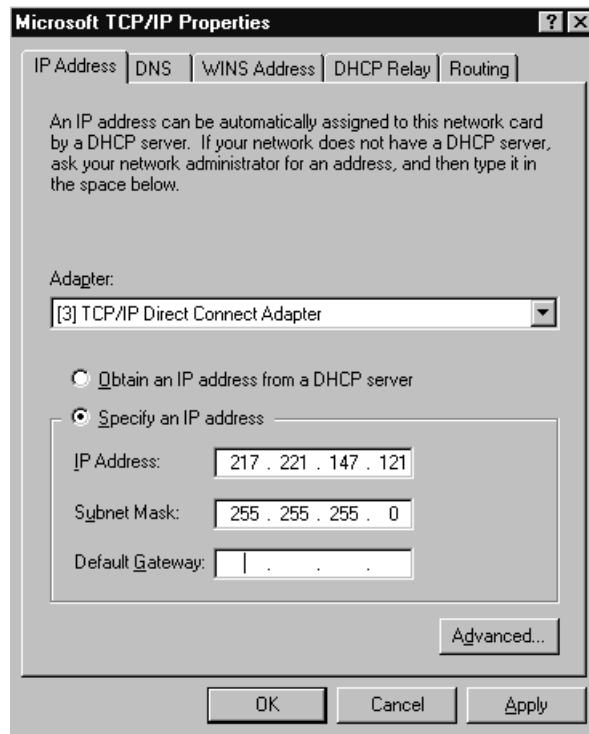

Figure 5-21. Assigning an IP Address to the ESCON Adapter
12. Enter an IP Address and Subnet Mask; defining the address that the mainframe will use to communicate with the server (Figure 5-21). Note that the mainframe IP address and this address must be in the same subnet. Also remember that if Microsoft IP forwarding is to be used in the server, this IP address must be in a different subnet than the LAN adapter(s) that Windows NT is to route between.